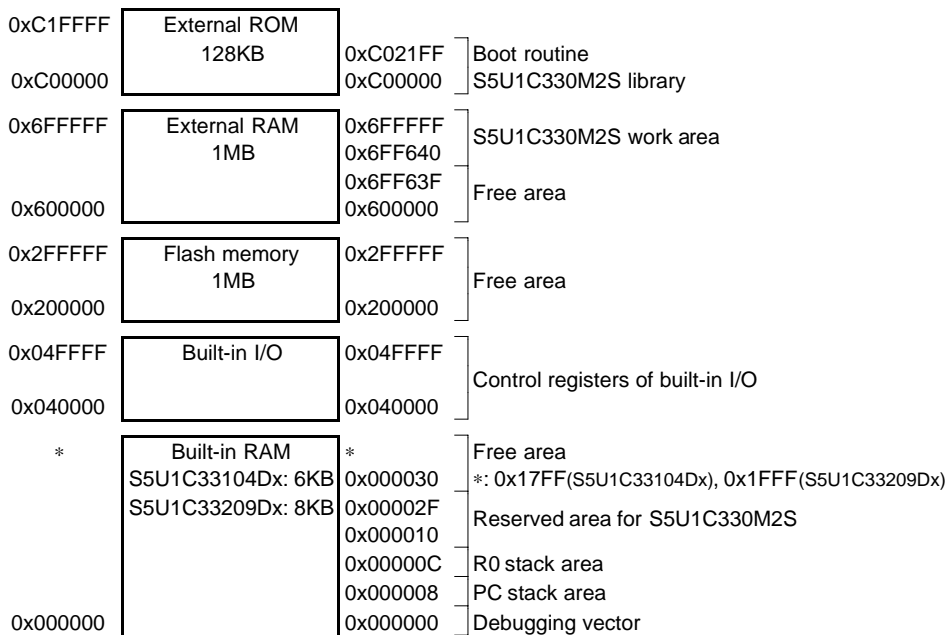

Figure A.5.1 S5U1C33104Dx/S5U1C33209Dx memory map
Figure A.5.1 shows the S5U1C33104Dx/S5U1C33209Dx memory map and the area used by the debug monitor.
- When debugging the user program on the S5U1C33104Dx/S5U1C33209Dx board, create the program so that it can be loaded and executed in the free area of the RAM or the Flash memory in the same way as the sample file. (See Figure A.5.1)